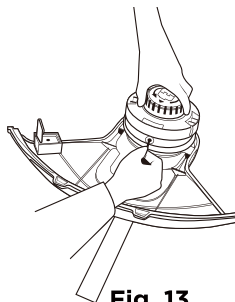

Fig. 13
- c.** Thread the line from the position shown up to the middle of the line and align the two ends.(Fig. 13)